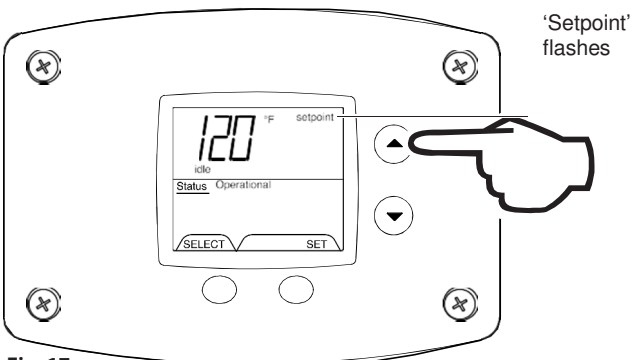

Fig. 17
2. 'Setpoint' indicator begins flashing in the display after pressing 'Temperature Up' button (Fig.17).